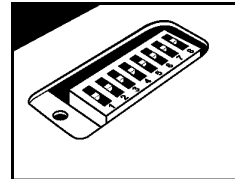

Figure 3
- Ten dip switches are located in the Doorbell button (transmitter) and eight dip switches in the Chime (receiver). (Figure 3)